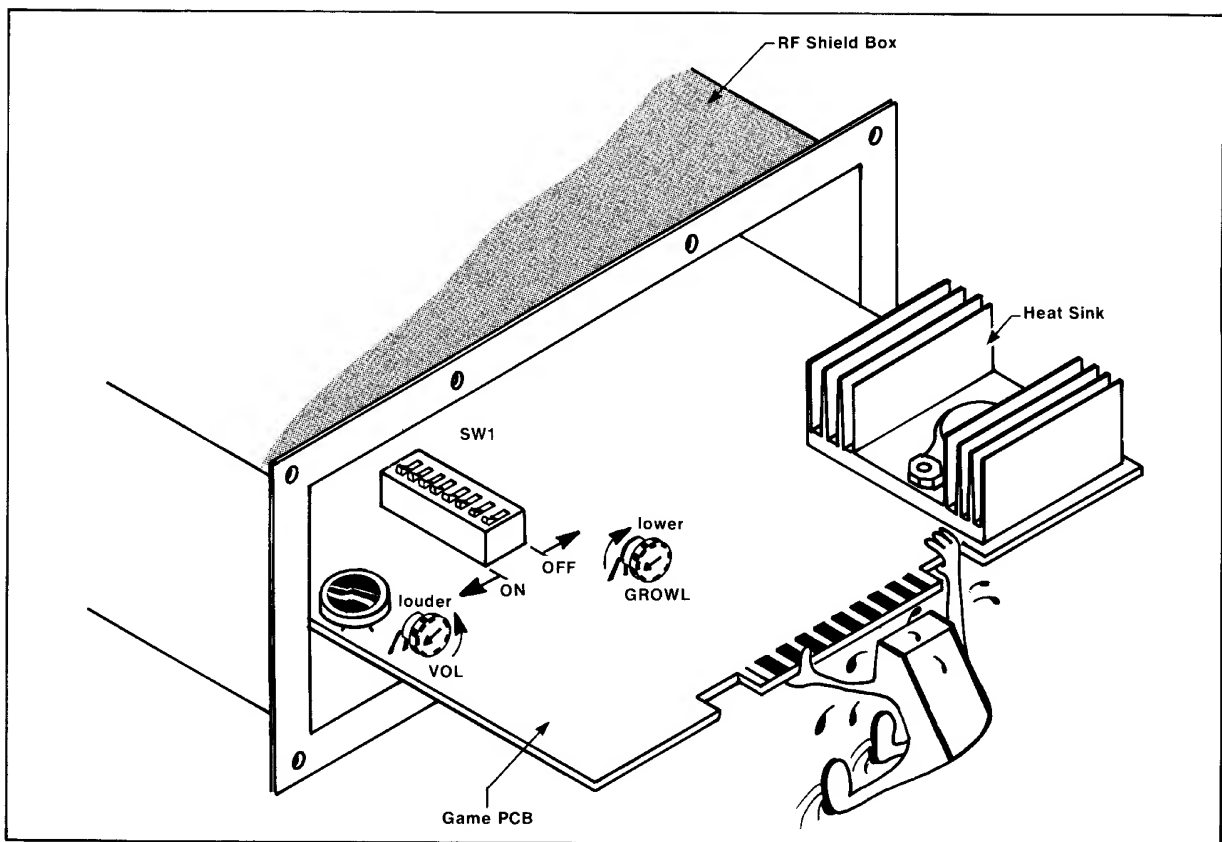

Figure 7 Locations of Switch Assembly SW1 and Potentiometer Adjustments
- 6) Slide the Game PCB about half way out of the box. It will *not* be necessary to completely remove the Game PCB from the box. Locate Switch Assembly SW1 on the surface of the Game PCB. (Refer to Figure 7).
- 7) Set the positions of the miniature switches on SW1 so that they will correspond to the game selection and other operator options desired, as listed in Table 3. Any adjustments of speaker volume or of the pitch (bass or treble sound), or the bear growl can also be made at this time, by manually moving the studs on the potentiometers shown in Figure 7.